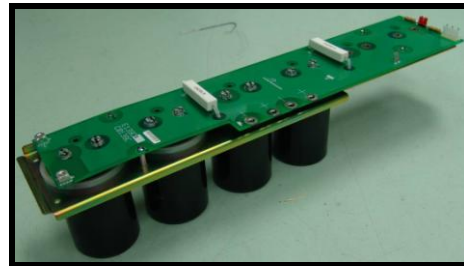

Figure 7.4.33
See figure 7.4.33 while following the next instructions:
- 1) Unscrew the 12 special hexagonal screws M5X10 which fix the capacitors to the electronic board of the bus (see figure 7.4.33).